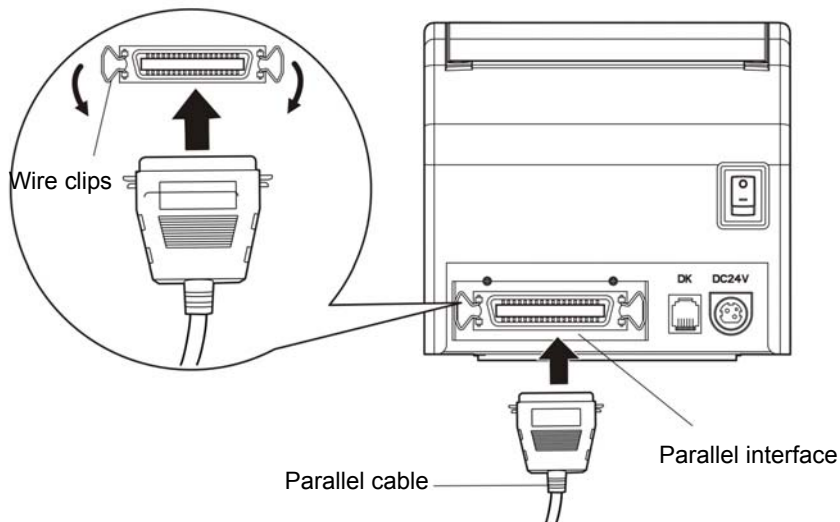

Figure 2-3 Connecting the parallel cable
1. Make sure the computer and the printer are both turned off, plug the parallel cable to the parallel interface of the printer, Squeeze the wire clips on both sides and make the connector fixed. (As shown in figure 2-3)